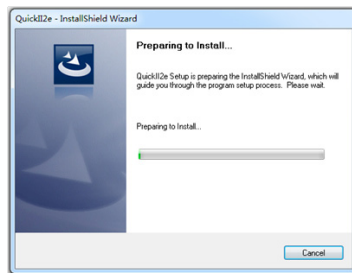

Fig 1.1
1. Insert the CD-ROM with Quick II into the CD Drive and Installation Guidance will appear automatically. Select Install>Setup. The dialogue box, as shown in figure 1.1, will appear. Then wait for installation instructions.